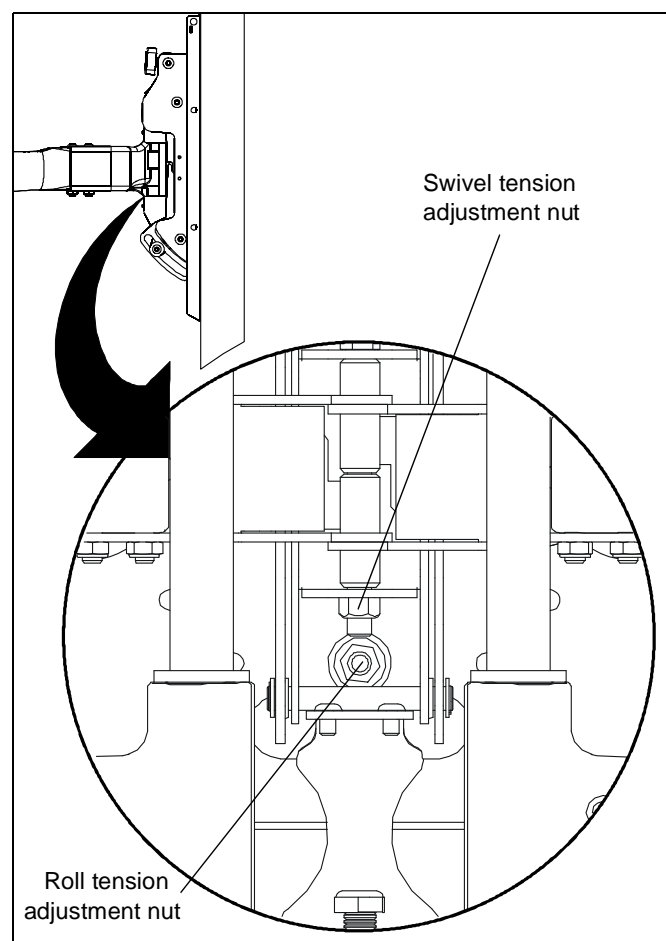

Figure 11
1. Using a 9/16" wrench (not provided), slightly tighten or loosen swivel tension adjustment nut. (See Figure 11)
1. If necessary, loosen or tighten roll tension adjustment nut. (See Figure 11)